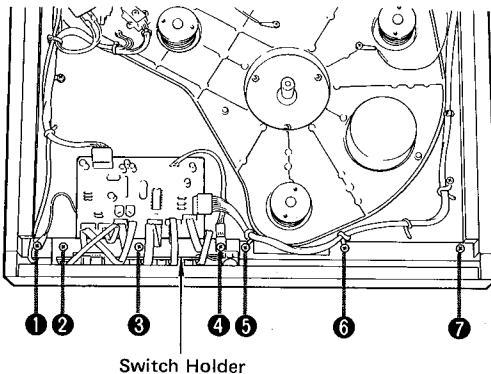

Fig. 2
**② FRONT PANEL REMOVAL**
1. Remove the cabinet bottom. (Refer to step ①)
2. Remove screws ① to ⑦ in Fig. 2 and remove the switch holder by pulling the front panel slightly forward (at this time remove the lead wires connected to the quartz lock LED) then remove the front panel.